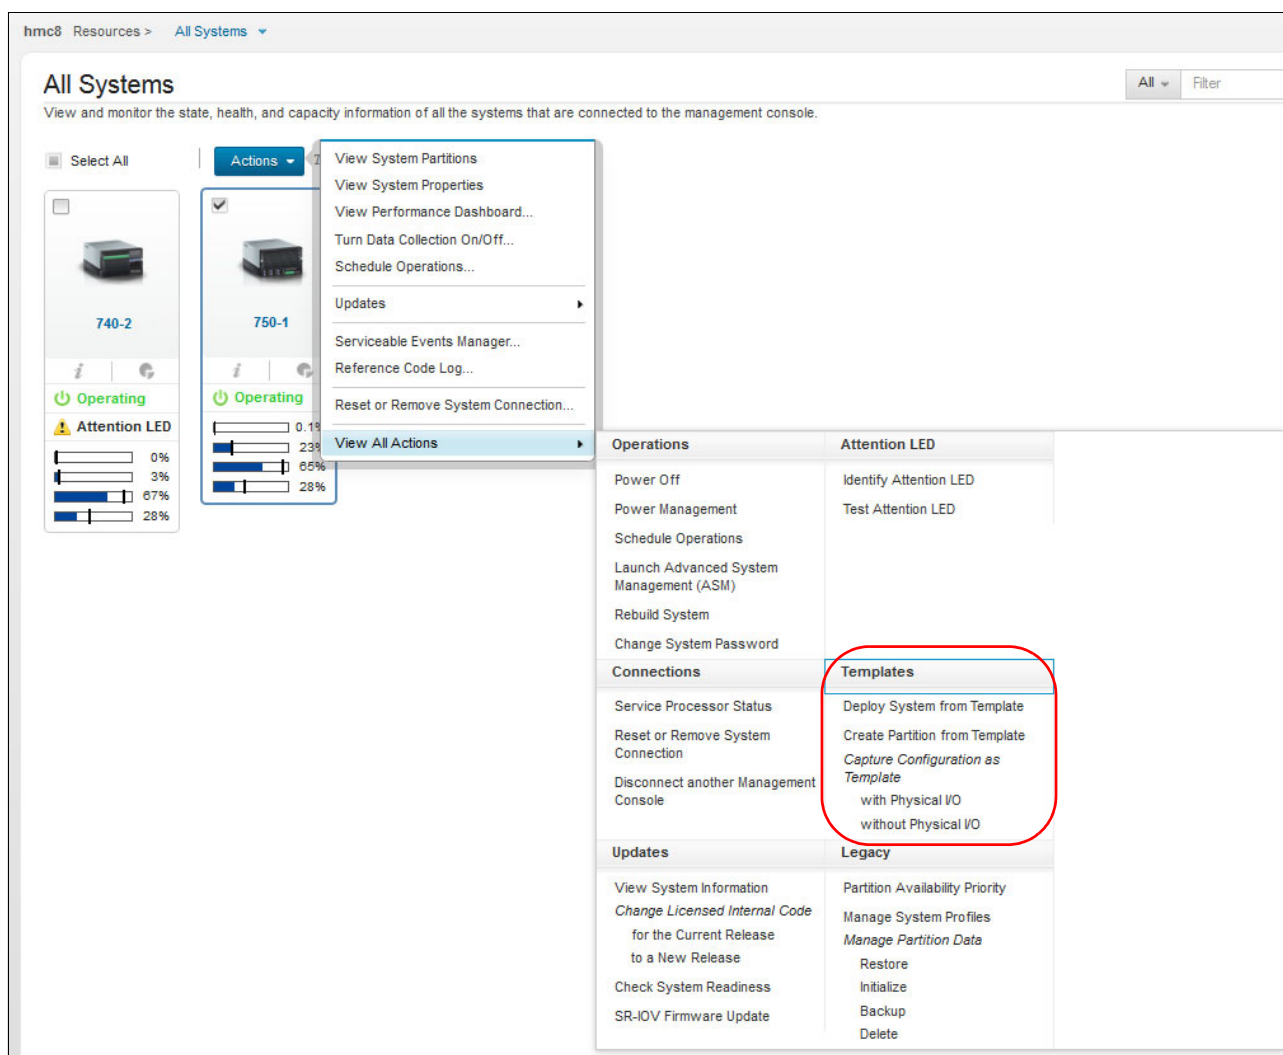

Figure 2-23 Accessing the Templates function
- ii. Click **Templates and OS Images**, or click **Template Library** (Figure 2-23 on page 72).